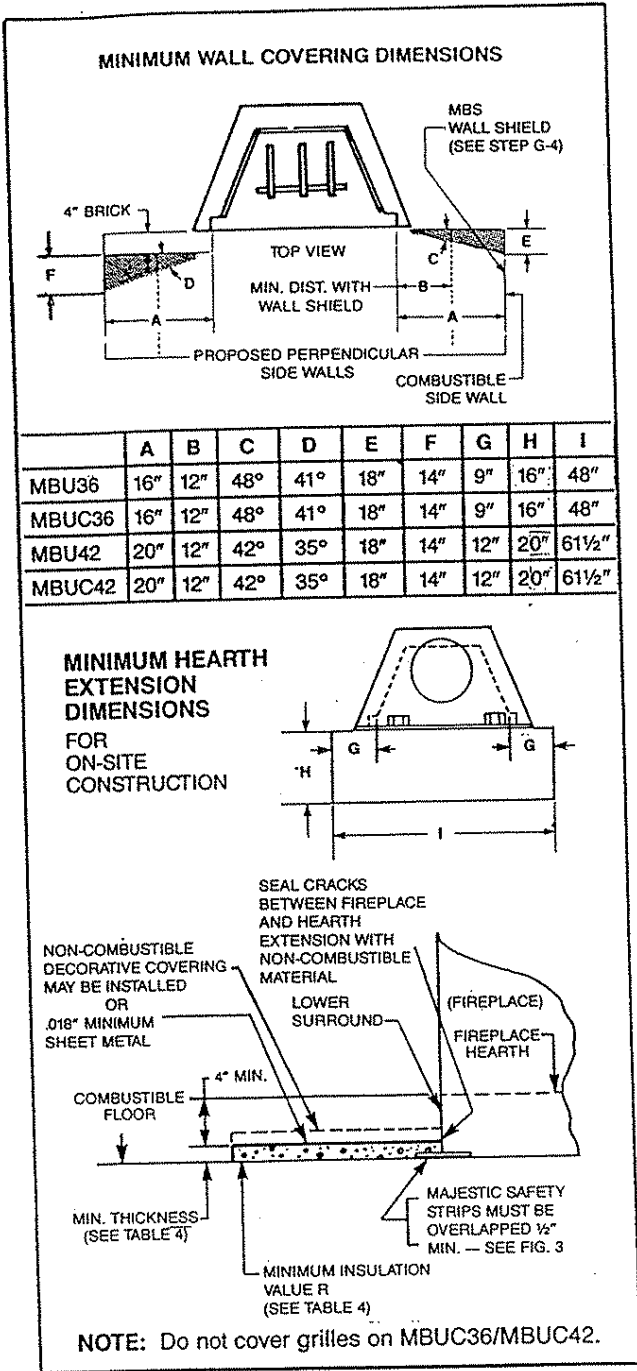

Fig. 22. Protection of adjacent combustible side walls and hearth extension dimensions.
A hearth extension is required to protect combustible floor construction in front of the fireplace. Use an MBS Hearth Extension Model EH36A for MBU/MBUC36 Series or EH42A for MBU/MBUC42 Series, or a design built in accordance with Fig. 22.
The hearth extension described in Fig. 22 must be a durable non-combustible material with a minimum (total) R_T value of 1.09 (MBU36 Series) and 2.18 (MBU42 Series); see Table 4 for examples. The overall height (above combustible floor), depth and width must be as indicated, with it centered to the fireplace opening. (See Fig. 22.)
The top of the insulation must be covered with a non-combustible decorative covering or a piece of .018" minimum sheet metal, to protect the hearth extension material. (See Fig. 22).
Secure the hearth extension to the floor to prevent shifting, using trim molding or other similar means at the three (3) outer edges. Seal the crack between the fireplace hearth and the hearth extension with a non-combustible material. (See Figs. 22, 23 and 24.)
HEARTH EXTENSION MUST BE INSTALLED IN ACCORDANCE WITH FIGS. 22, 23 OR 24 AND MUST NOT COVER THE GRILLE OPENING OF THE MBUC36 AND MBUC42 MODELS.